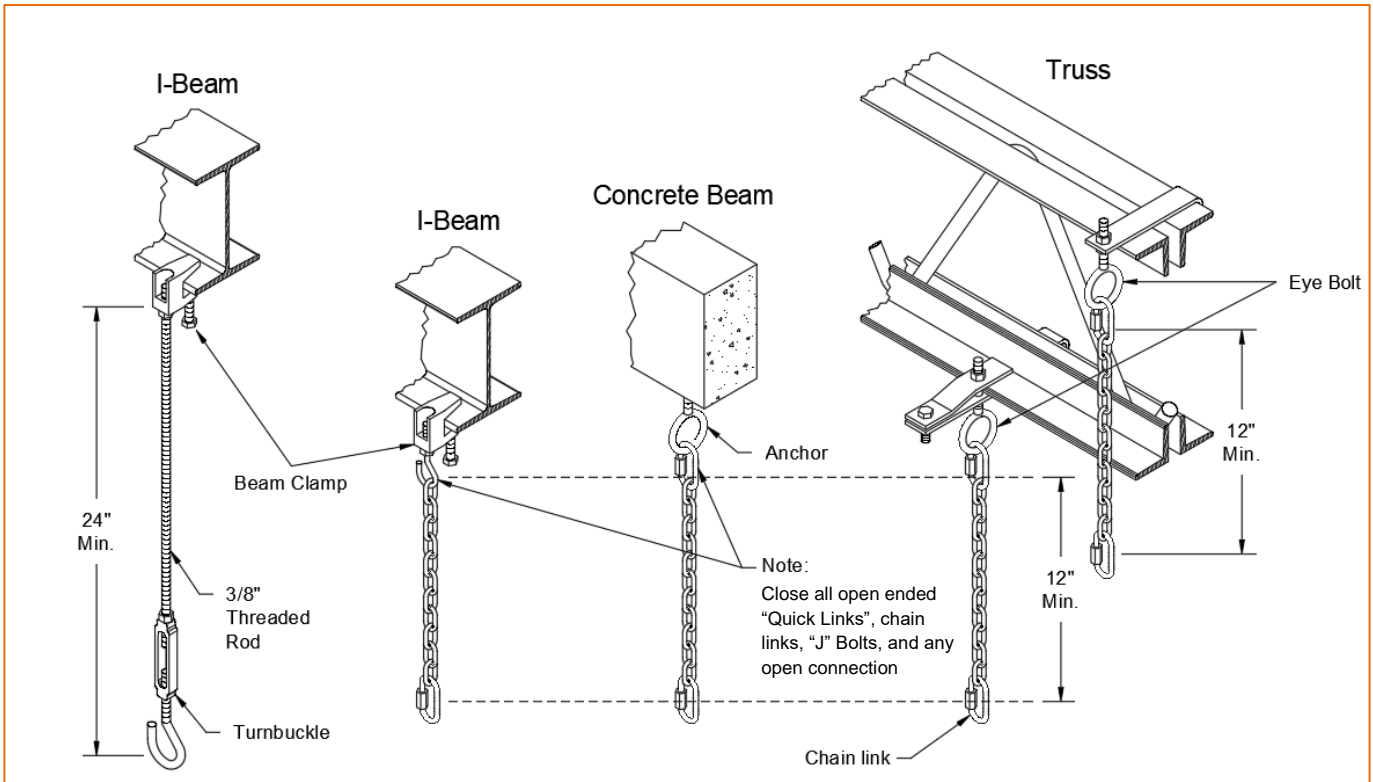
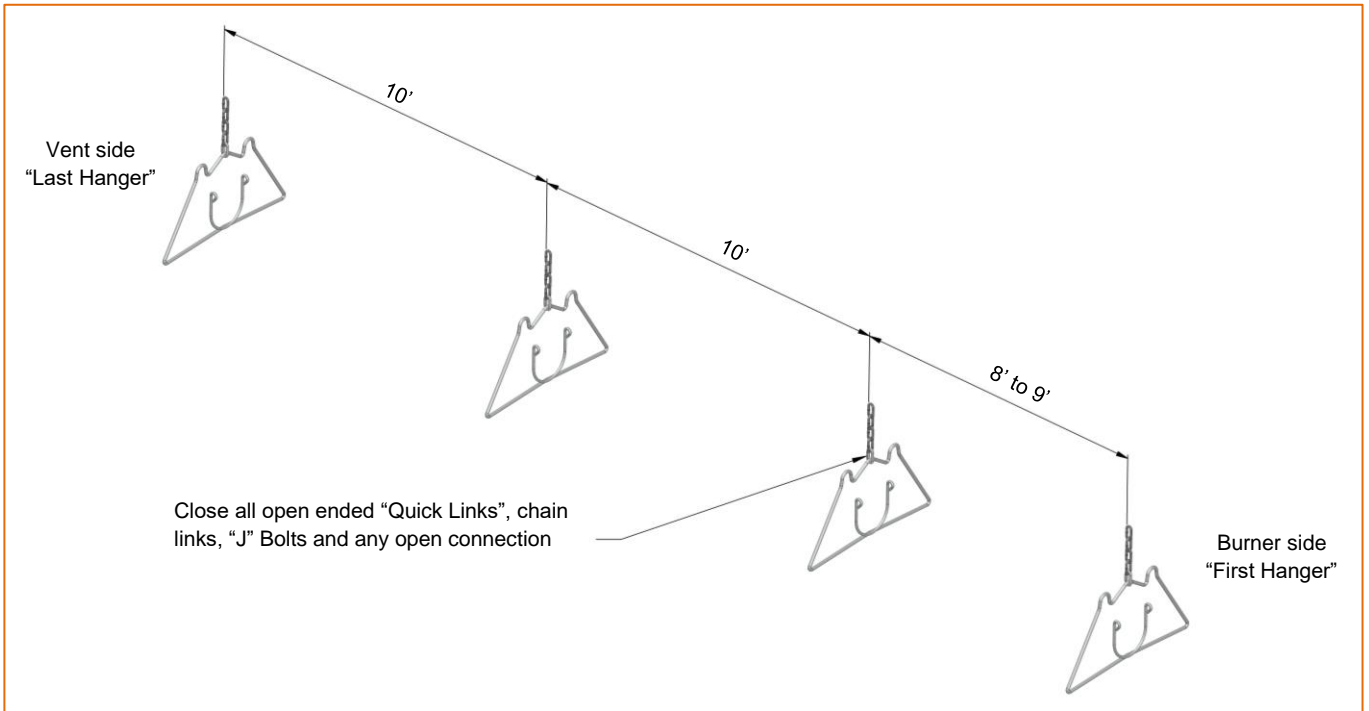

Figure 5: Suspension Mechanism
Figure 6: Typical Hanging Points
Generally, there is no unique sequence for installation of the burner or heat exchanger. A review of the job site will usually indicate a logical installation order. However, time and expense can be saved if installation is begun at the most critical dimension, watching for interference from overhead doors, cranes, auto lifts etc. Figures 6 & 7 provides a general overview of the components utilized in the installation, as well as their general relationship.
- Suspension mechanism must allow for lateral tubing expansion. A minimum 12" length welded link chain with a working load limit of at least 200 lbs. is recommended (refer to Figure 5 for more details). SRP recommends and make available "quick links" for connecting chain. If any open ended turnbuckles are used, the open ends must be closed to avoid unhooking chain with inadvertent contact.
- Locate hanging chain at predetermined suspension points in the structure. It is required that the first 2 hangers be about 8' to 9' away. Thereafter, 10' apart on average is acceptable for the remainder of the heat exchanger. At no time should hangers be more than 12' apart, (see Figure 6).
- Install the tube and reflector support hanger on the chain with “Quick Links” refer to Figure 5 & Figure 6